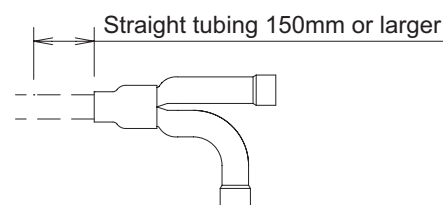

Fig. 2-300
- For branching tubes, install 150mm or larger (including reducer) straight tubing up to the point where the tube branches (or after the point where the tubes join together). (Fig. 2-300)